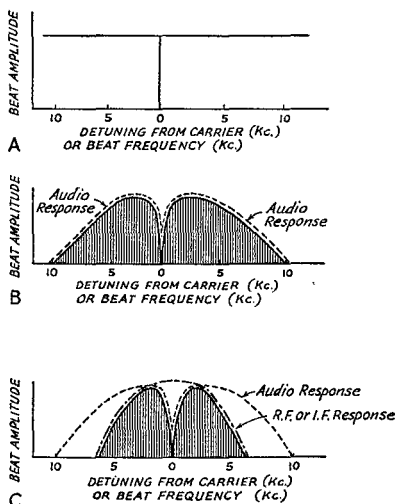

Fig. 2 — The effect of audio and r.f. or i.f. selectivity on a heterodyne beat note.
Of course, this beat note actually exists far beyond the range through which it is heard, as shown in Fig. 2-A, but because of the upper audio limits of response in the receiver and headphones, the *audible* portion of the beat is limited, as shown in the selectivity curve of Fig. 2-B, peaked where the response of audio amplifier and headphones is a maximum, and dropping off in the high- and low-frequency ranges. Additional sharpness of these peaks is obtained in the superheterodyne by increased r.f. and i.f. selectivity, as shown in Fig. 2-C.
(A) Same as Fig. 2-C, showing superheterodyne reception with the b.f.o. tuning to the center of the i.f. pass band. There are two points of maximum signal response, one above and the other below the zero-beat point.